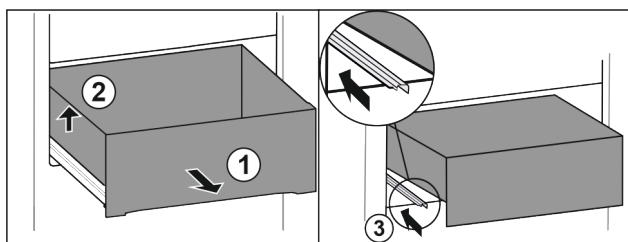

Fig. 88
- Pull out drawer as far as it will go. Fig. 88 (1)
- Lift drawer on the left. Fig. 88 (2)
- Insert left rail. Fig. 88 (3)